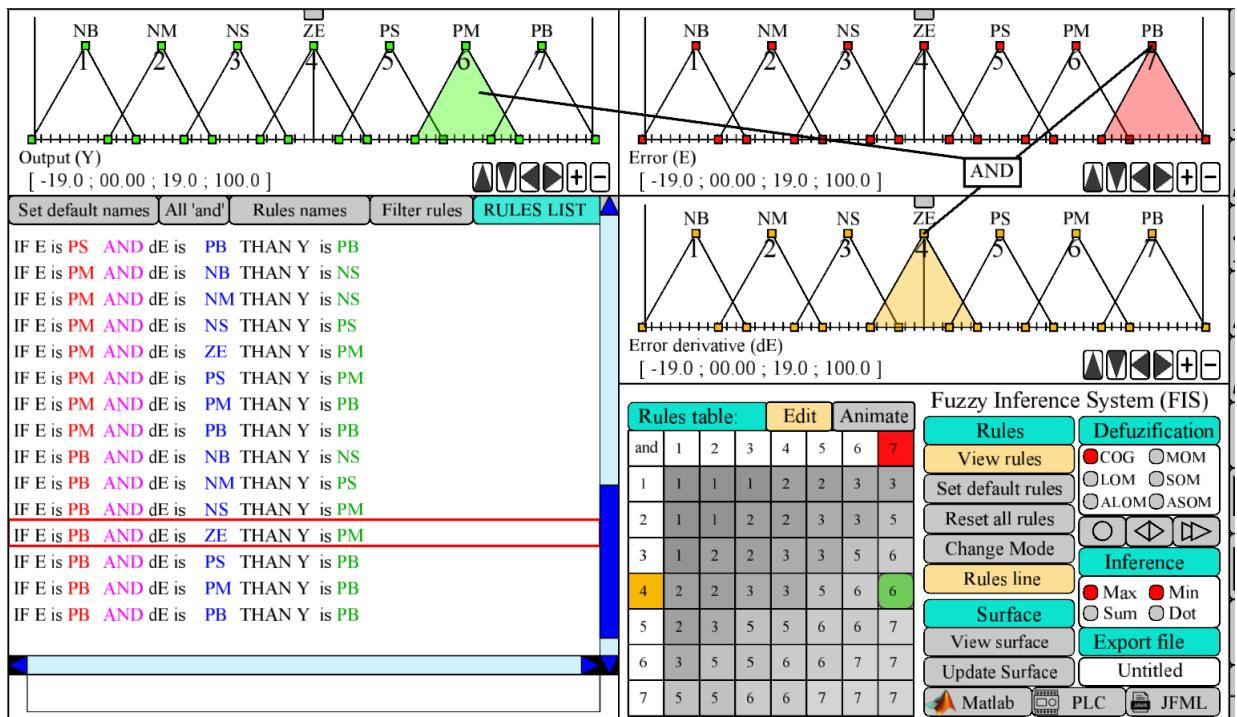

Figure 2: FIS parameters
2. The second intuitive way involves using the mouse wheel to change the MFs' upper/lower widths. The user must select the width type (upper or lower) & the number of MFs to which the change will be applied (see Figure 2), then scroll the mouse wheel.
This section explains how the user configures the FIS parameters and fills in the rules table, as shown in Figure 2.
View Rules	Shows the rules list as pictured in Figure 2.
2. **The second method is using the mouse wheel.** After navigating to the intended rule using the mouse wheel, the user must activate the "IF Then" button in Figure 2, then scroll the mouse wheel to assign the desired fuzzy rule.
3. **The third method is using keyboard keys.** After selecting the target rule, press the rule number (as shown in Figure 2) to assign it automatically.